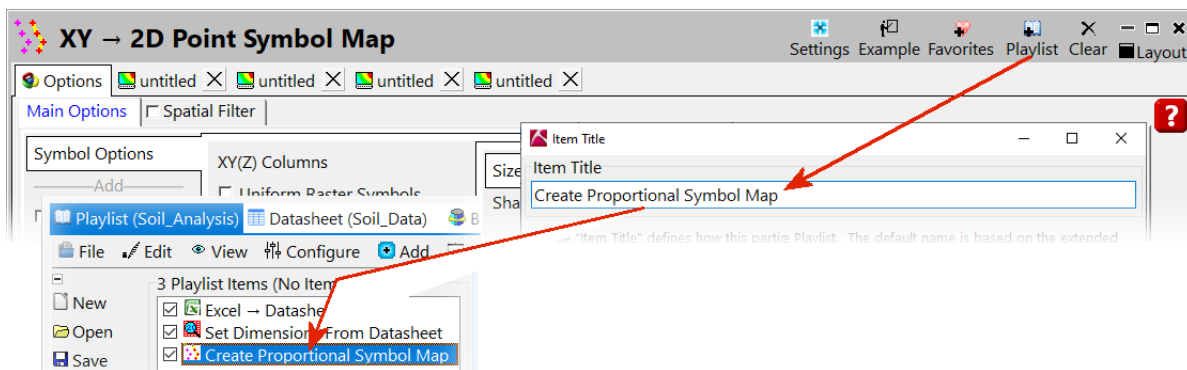

Figure 27
- Add this step to the Playlist by clicking on the Playlist button within the XY -> 2D Point Symbol Map and specifying a title (Figure 27).